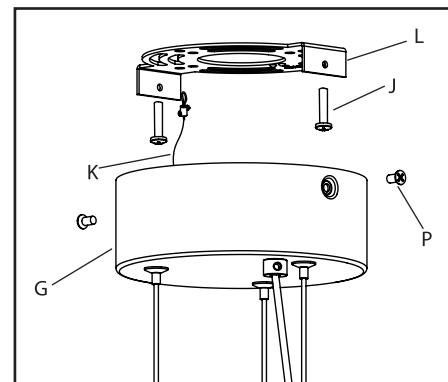

Figure 1
1. Shut off power to the outlet box (A).
2. Determine the height at which the fixture (B) is to be hung. Adjust the steel cable (C) to the desired height. To shorten the cable, push the cable up and it will be locked automatically. To lengthen the cable, lift up on the cable and push up on the lock (D). While keeping the lock depressed, lower the cable to the desired length. Release the lock to set.
3. Use the screwdriver to loosen the set screw (E). Adjust the power cords (F) to the desired length. Tighten the set screw to set. Reserve extra cord in the canopy (G).
4. **2076/2078:** Attach the cross bar (H) to the outlet box (A), secure with outlet box screws (J), and attach security cable (K) to canopy (G).
2071/2072/2073/2075: Attach mounting plate (L) to the outlet box (A), secure with outlet box screws (J), and attach security cable (K) to canopy (Figure 1).
- c. Connect the fixture's ground wire (green or uncoated) to the ground outlet box wire. If no ground is present in outlet box, connect fixture's ground wire to the cross bar (H) or mounting plate (L) using the green screw (included).
- f. Carefully place connections in canopy (G).
6. **2076/2078:** Slide canopy (G) onto nipple (M) and secure with canopy nut (N).
- 2071/2072/2073/2075:** Install canopy (G) to mounting plate (L), secure with canopy screws (P). (Figure 1)
7. Adjust the steel cable (C) or power cords (F) to level the fixture (B).
8. Slide the cable guide (Q) to desired position by using the slotted screwdriver to loosen the set screws (R). Tighten set screws to set.
1. Make a 1" slice along the length of the cord's outer jacket (Fig. 1).
2. Carefully strip the outer jacket of the cord and keep the outer braided conductors intact (Fig. 1).